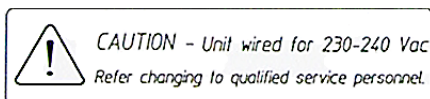

Fig. 2
- Check the voltage label (Fig. 2) on the rear of the instrument to ensure that the instrument is set to the correct voltage range.